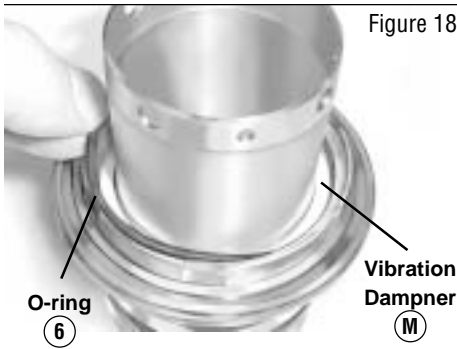

Figure 18
4.15 Insert the outboard vibration dampener (M) into the rotor carrier. Make sure that the vibration dampener is fully seated at the bottom of the rotor carrier. Place the outboard mating ring O-ring (6) in the O-ring groove of the rotor carrier, which is behind the surface with two drive flats. (Figure 18)